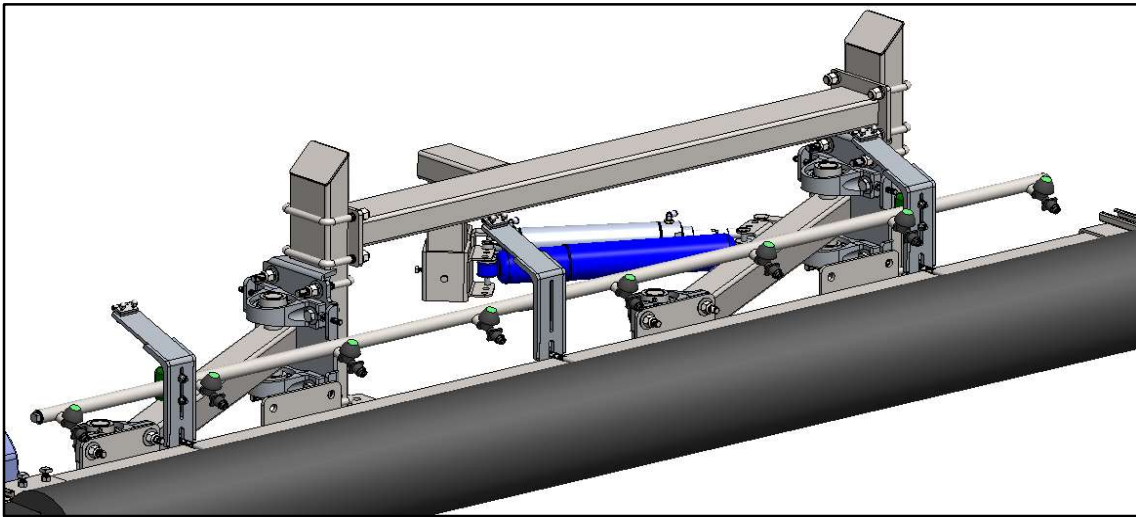

Figure 10: Note - shield is hidden for clarity. End result of shield post mounting of manifold.
11.) Slide the screws on each manifold clamp into the upper slot on the hinge mount using two people supporting both ends. Apply the washers and the fasteners set aside from step 10 to the backside of the hinge mount to retain the manifold on the hinge mount. Note the orientation of the nozzles and plumbing connections relative to the brush. See **Figure 10** for end result.